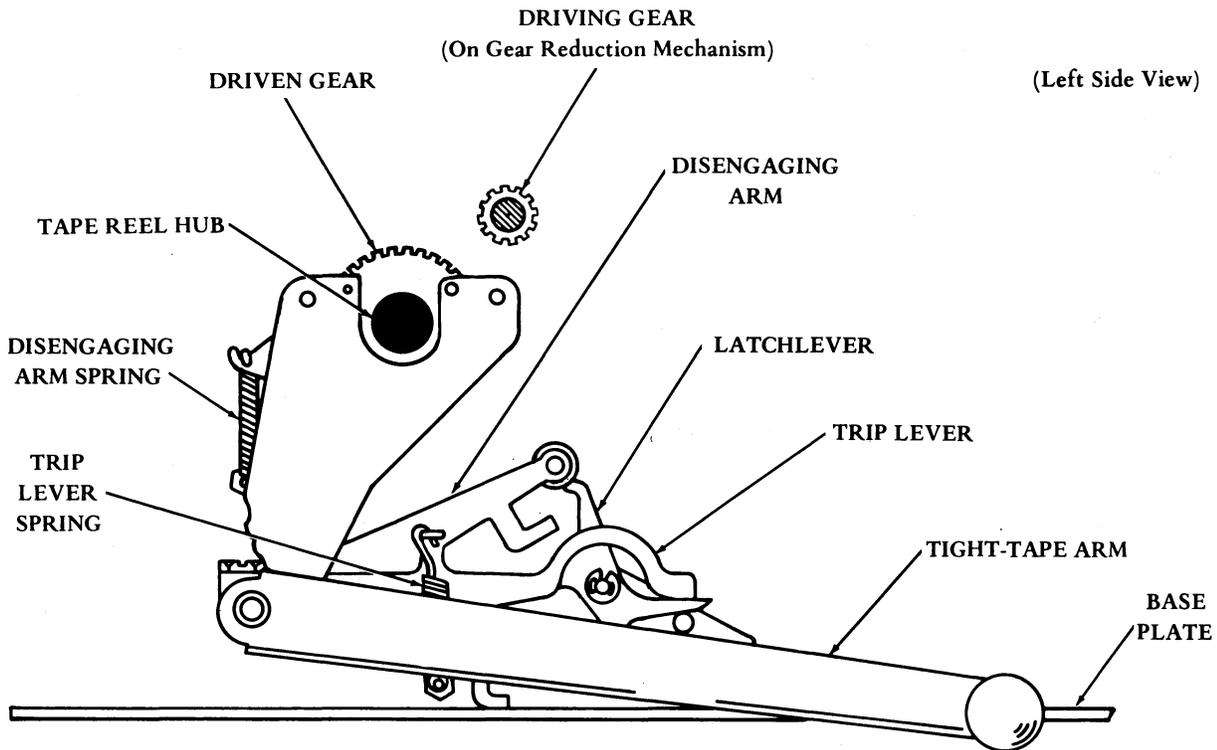

Figure 4 - Tape Winder Assembly
2.05 A tape winder assembly (Figure 4), mounted on the upper left rear corner of the base plate, winds the reperforator punched tape onto a plastic reel. The assembly consists of a gear reduction mechanism, tight-tape arm, latchlever, trip lever, disengaging arm, tape reel driven gear, detachable tape reel hub, and tape reel.